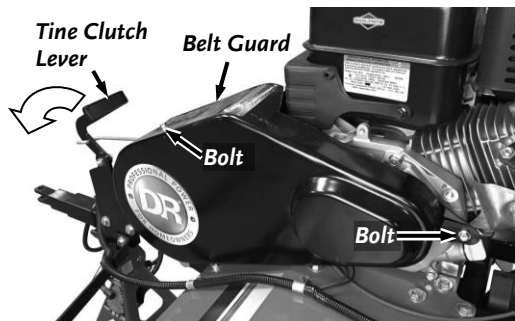

Figure 20
1. Remove the two Bolts from the top and rear of the Belt Guard using a 3/8" Socket and remove the Belt Guard (**Figure 20**).